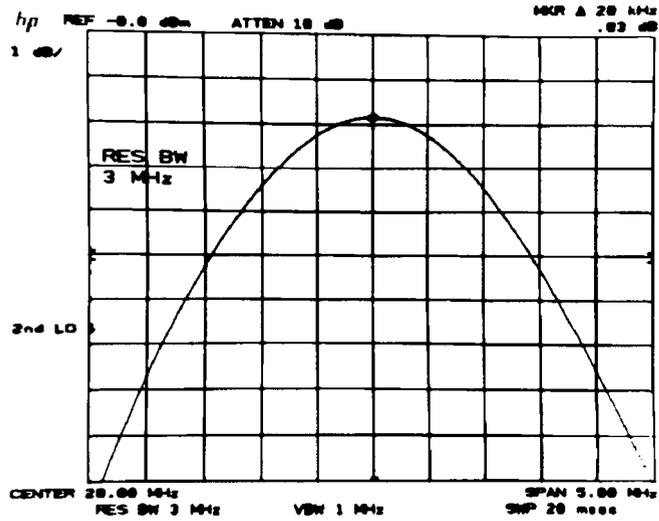

Figure 2-8. Bandwidth Switching Uncertainty Measurement
6. Key in settings according to Table 2-10. Press MARKER **PEAK SEARCH** at each setting, then read the amplitude deviation from the MARKER A readout at the upper right of the display (see Figure 2-8). The allowable deviation for each resolution bandwidth setting is shown in the table.